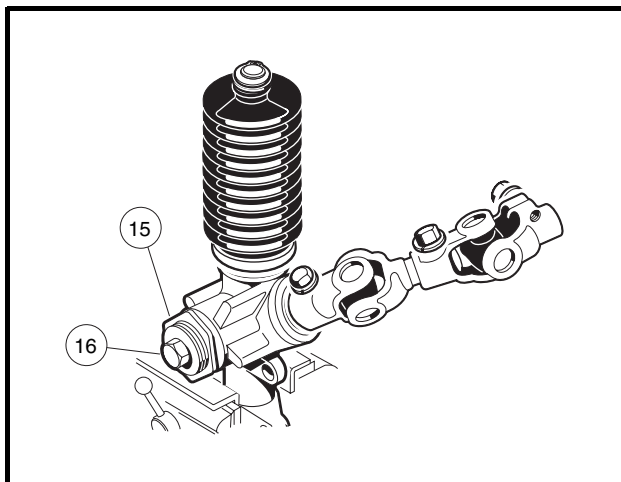

Figure 7-13 Rack and Pinion Adjustment
- 12.4. If measured resistance does not equal 7 to 15 in-lb, loosen the lock nut (15) and tighten the screw (16) until it bottoms out, then back the screw off one quarter turn. Tighten the lock nut to 28 ft-lb (38 N·m) (**Figure 7-13, Page 7-11**). **See following NOTE.**
NOTE: When tightening the lock nut (15), make sure the screw (16) does not change adjustment (**Figure 7-13, Page 7-11**).